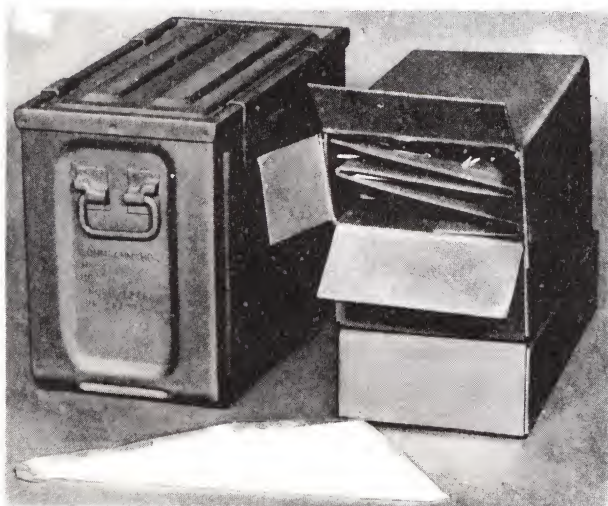

Figure 4-2. Container for AIM-9C Fins
**4-1.2 FIN CONTAINER.** Four fins with O-rings and screws in place are packed in a fiberboard carton; three cartons are overpacked in a Mk 314 Mod 0 container. In each container there are also two T-handle wrenches, a package of spare O-rings, and a package of spare screws for the fins, crystal oscillator hatch cover, and umbilical. The loaded container measures 18.24 by 12.75 inches and weighs 40 pounds, figure 4-2.